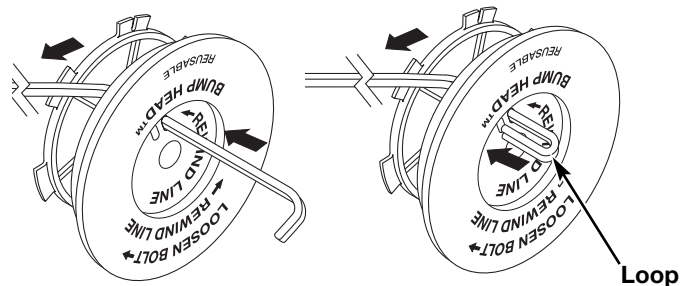

Fig. 15
NOTE: SplitLine™ can only be used with the inner reel with the slotted holes. Single line can be used on either type of inner reel. Use figure 15 to identify the inner reel you have.
6. Take approximately 10 feet (3 m) of new trimming line. Insert one end of the line through one of the two holes in the inner reel (Fig. 15). Pull the line through the inner reel until only about 4 inches is left out.